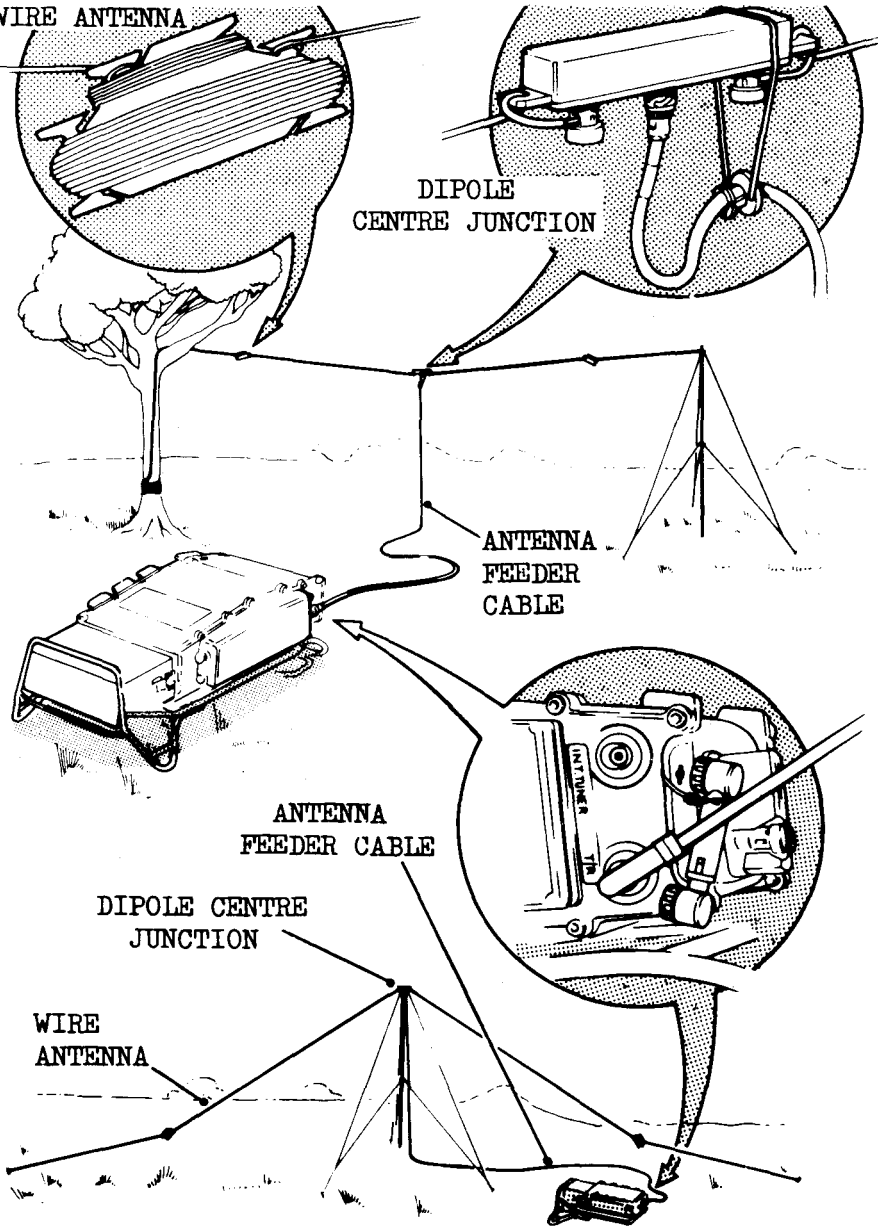

Fig.11 Dipole Configurations
SKY WAVE DIPOLE AND END-FED ANTENNAS (Fig.11,12,13 Pages 33,35,36)
2.15 The dipole configurations which give best results at maximum range are shown in Fig.11. The setting up procedure for these configurations is as follows:-
2.15.3 Erect the horizontal dipole as shown in Fig.11 (the side of a house or wall could be used instead of a tree), using a suitable weight, such as a jack knife, on the throwing cord to get the wire or cord through the branches of the tree. Tie off the cord in the same way as the antenna wire.
2.15.4 When only a 5.4m mast is available to support the antenna, a centre supported dipole can be used. This dipole is erected as shown in Fig.11 and the dipole centre junction is secured to the top of the mast with a length of cord. The bobbins of the wire antennas are supported by securing the throwing cords to the spare stakes included in the mast kit.